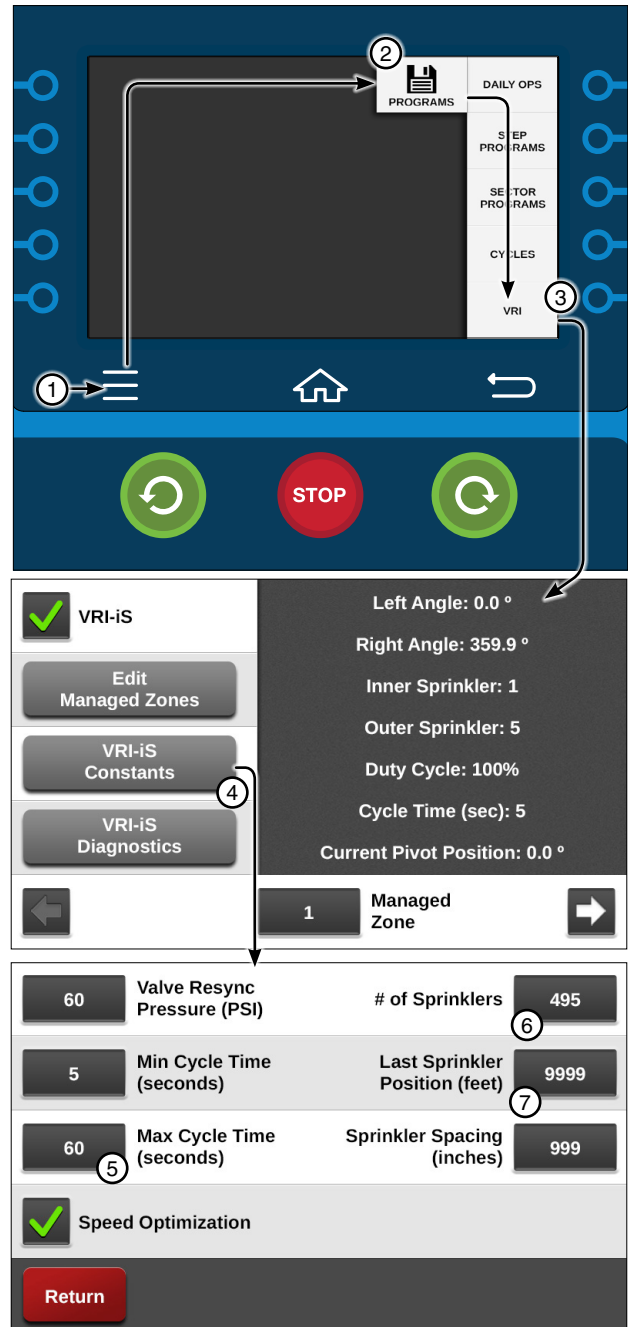

Figure 177-1 1. Menu
1. Push **Menu**, **Programs**, **VRI** and **VRI-iS Constants** to display the VRI-iS Constants screen. Refer to Figure 177-1.